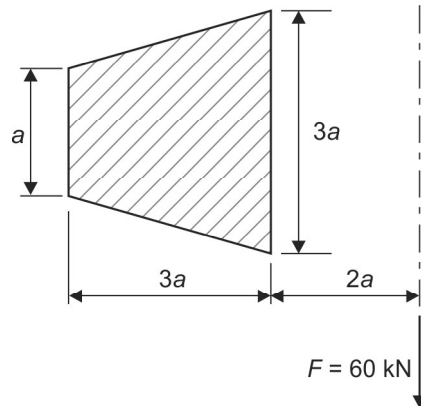

Fig. M1.18
b. A crane hook of trapezoidal section is shown in Fig. M1.18. Through the center of curvature, a load of 60 kN is applied on the hook. Determine the dimensions of the section, if the maximum stress is not to exceed 80 MPa. (15 Marks)